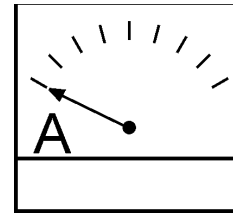

Figure 35. Ammeter (No Load)
11. The ammeter (Figure 35) will indicate **zero amps** with no load applied. When a load is applied, the ammeter will indicate the amount of current that the load is drawing from the generator.